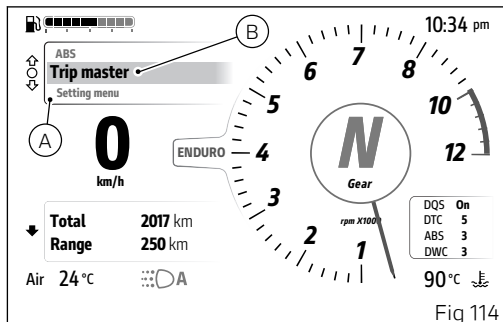

Fig 114
- Select the Interactive Menu (A, Fig 114) by pressing and holding button (1) pressed for a long time.
- Use buttons (1) and (2) to select item Trip master (B, Fig 114) and press the ENTER button (3).